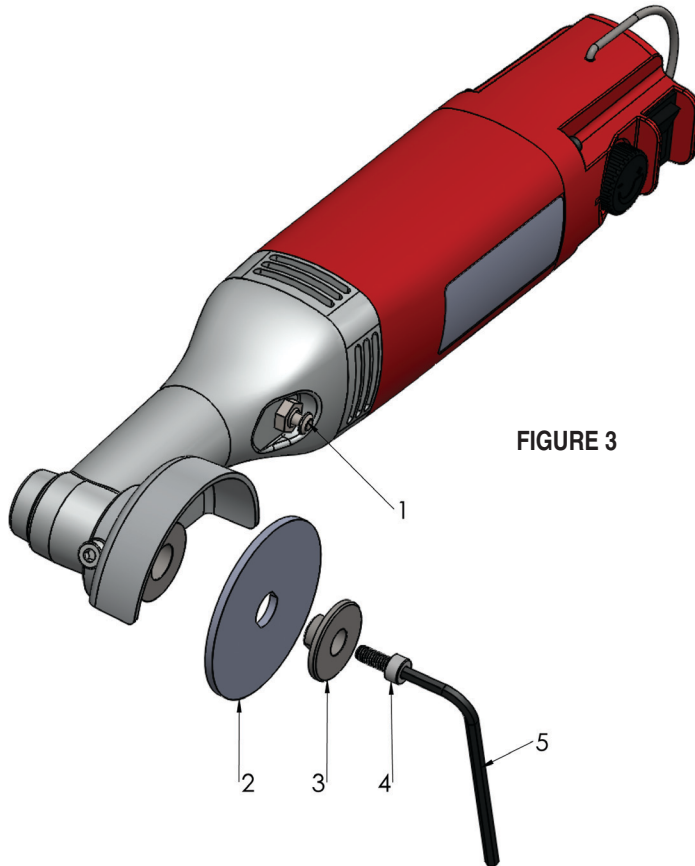

FIGURE 3
- Retighten the fastening screw 1, turning clockwise. Ensure the accessory is properly seated in the centering disc shoulder 3 (FIG 3).
- Press the locking button 1 (FIG 3)